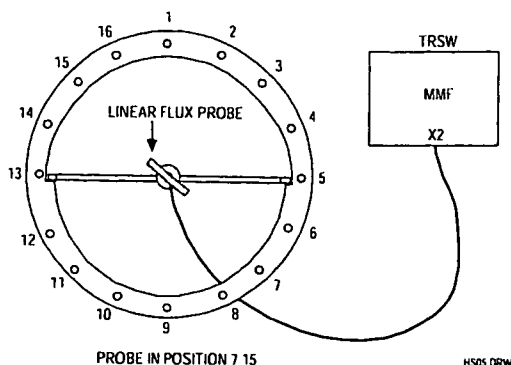

Figure 25 Flux probe position 7 - 15
1. Position the flux probe to position 7 - 15 (see Figure 25).